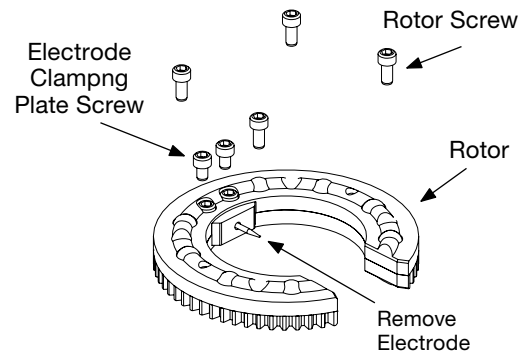

Figure 38 Removing the Rotor and Electrode Clamping Plate Screws
1. Remove the rotor screws and the electrode clamping plate screws from the rotor. Remove the electrode from the ceramic insert. See Figure 38.